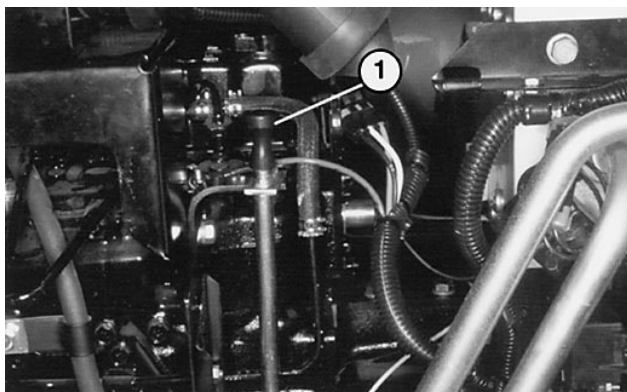
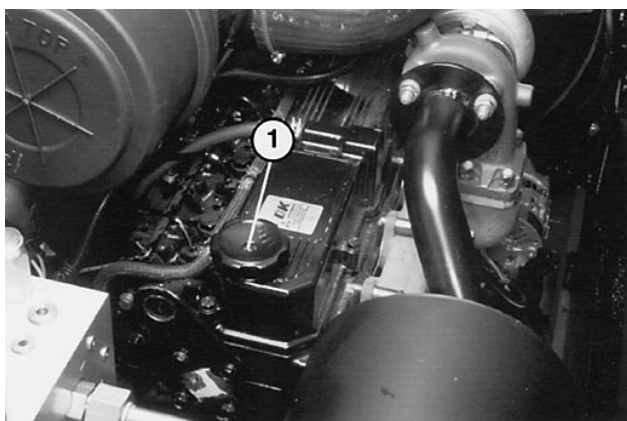

Figure 33
Figure 34
2. Remove the dipstick, wipe it with a clean cloth (Fig. 33) and fully re-insert it in the tube. Remove it from tube and check the oil level. The level should be between the marks on the dipstick. If the level is low, remove the filler cap (Fig. 34). Add oil until the level is to the top mark on the dipstick. **DO NOT OVERFILL.**